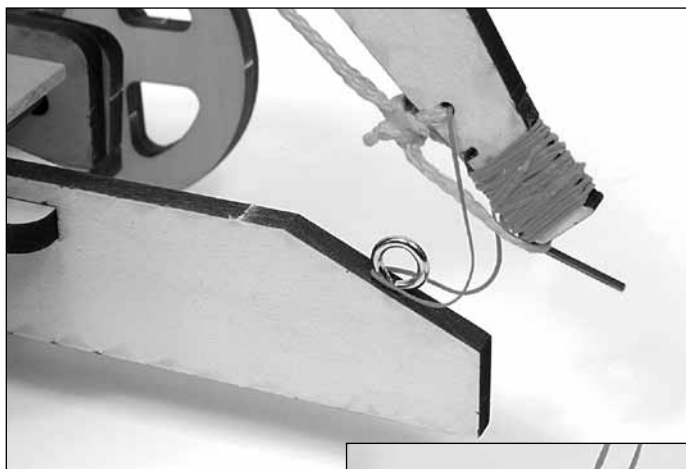
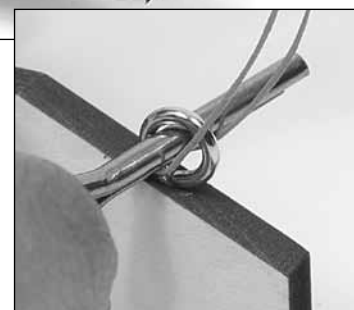

Figure 31a
Figure 31b
4. Holding the twine loop onto the hook and the arm down, pull the string loop so it rests behind the screw eye (Figure 31a). Push the release pin through the screw eye on top of the thread (Figure 31b). When you release the arm, the pin should hold the arm in place. Without pulling the release pin, lay out the pin's twine so you easily pull the release pin while positioning yourself on the side of the trebuchet while launching. Carefully load a ball into the sling.
6. Holding the twine loop onto the hook and the arm down, pull the string loop so it rests behind the screw eye (Figure 31a, see previous page). Push the release pin into the screw eye on top of the thread (Figure 31b, see previous page). When you release the arm, the pin should hold the arm in place. Without pulling the release pin, lay out the pin's twine so you easily pull the release pin while positioning yourself on the side of the trebuchet while launching.